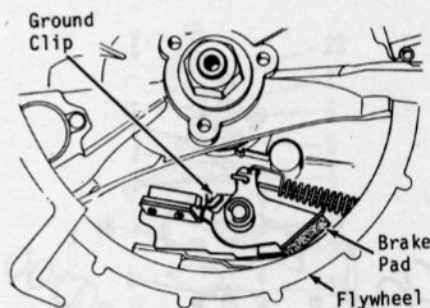
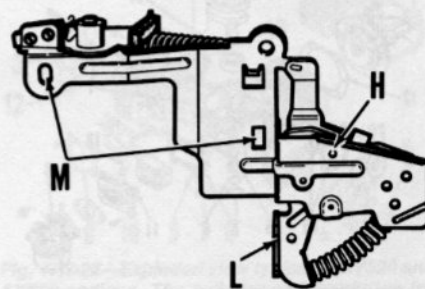

Fig. TP2-27—Some engines are equipped with flywheel band brake system.
Fig. TP2-28—Push against lever (L) and insert a pin through holes (H) to hold brake pad away from flywheel.
FLYWHEEL BRAKE. A flywheel brake is used on some engines that will stop the engine within three seconds when the equipment safety handle is released. The ignition circuit is grounded also when the brake is actuated. Refer to Fig. TP2-27.
The brake shown in Fig. TP2-27 contacts the inside of the flywheel. Before the flywheel can be removed, the brake must be disengaged from the flywheel. Push lever (L—Fig. TP2-28) toward spark plug so brake pad moves away from flywheel, then insert Tecumseh tool 670298 or a suitable pin in hole (H) to hold lever.